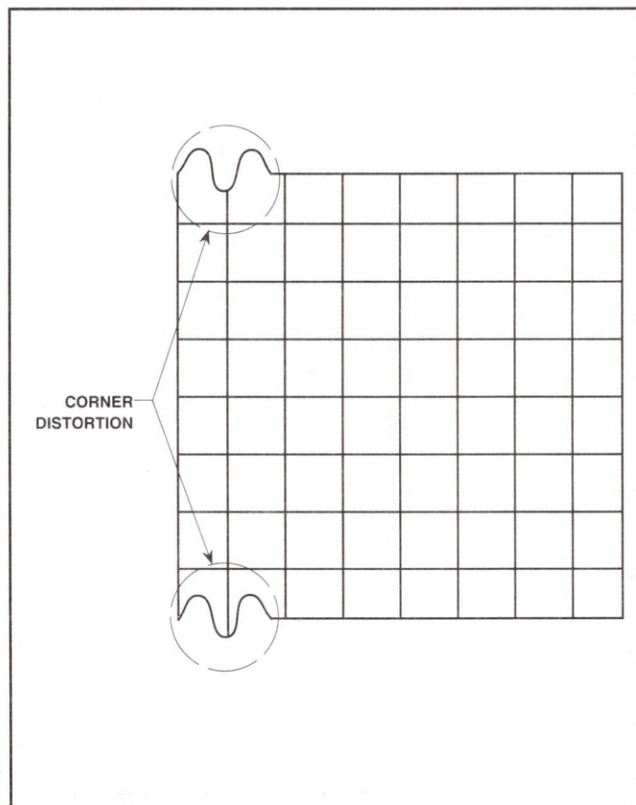

Figure 1
2. If corner distortion cannot be corrected, then adjust blue and red channels as follows. (See Figure 1.) It is not necessary to adjust the green channel.